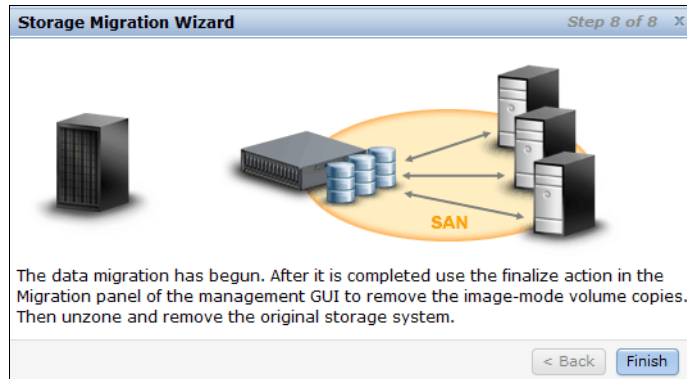

Figure 7-20 Storage Migration Wizard step 8 - Migration has begun
10. Click **Finish** to end the storage migration wizard in Step 8 as shown in Figure 7-20 on page 283.